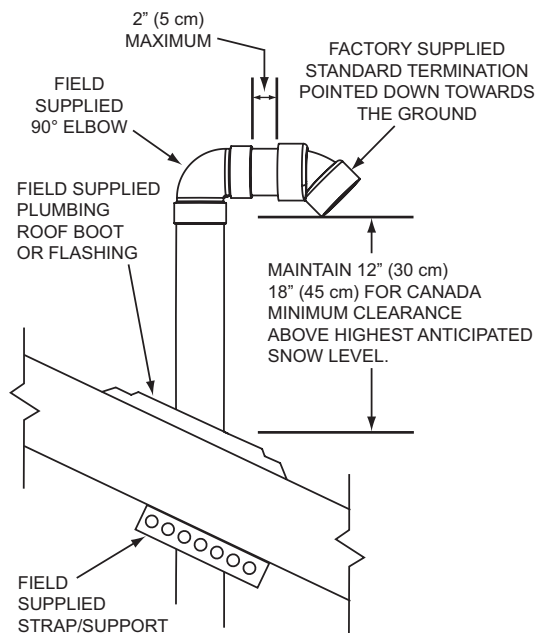
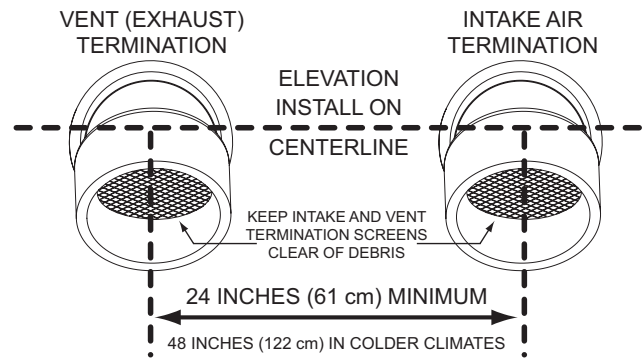

Figure 35. Vertical Termination(s) Installation
**Figure 37. Vertical Termination - Direct Vent**
2. If installing only the vent (exhaust) piping in a power-vent configuration vertically through the roof, ensure that all exterior vertical clearance requirements shown in Figure 35 and Figure 36, (page 38) are being maintained. These clearances and those cited by local and national codes must be maintained.
3. If installing both intake-air and vent piping in a direct-vent configuration vertically through the roof, ensure that all exterior vertical clearance requirements shown in Figure 35, Figure 36 (page 38) and Figure 37 are being maintained. These clearances and those cited by local and national codes must be maintained.
- a. The vent termination must be oriented facing downward as shown in Figure 35 and Figure 36.
- b. The bottom edge of the vent termination must be a minimum of 18 in (45 cm) in Canada, above the average or expected snow level as shown in Figure 35.
- a. The intake-air and vent pipes must penetrate the same side of the roof as shown in Figure 37 (page 38).
- b. The intake air and vent terminations must be oriented facing downward and in the same direction as shown in Figure 37 (page 38).
- c. The intake-air and vent terminations must have a minimum separation of 61 cm (24 inches) measured on the center line, as shown in Figure 37. In colder climates, this separation should increase to at least 48 in (122 cm).
- d. The bottom edge of the intake-air and vent terminations must be a minimum of 18 in (45 cm) in Canada, above the average or expected snow level as shown in Figure 35 below.
The distance between the closest vent and intake-air terminations must be a minimum of 61 cm (24 inches) as shown in Figure 37 (page 38). In colder climates, this separation should be increased to at least 122 cm (48 inches).
8. Suspend the pipe(s) through center of hole using field-supplied metal strapping or equivalent support materials as shown in **Figure 35**.
9. Slide a roof boot or equivalent flashing over the pipe, secure the roof boot or equivalent flashing to the roof (see **Figure 35**) and seal around the flashing.
10. Install the factory-supplied intake-air and/or vent termination(s) using field-supplied pipe and one field-supplied 90° elbow as shown in **Figure 35**. The short section of pipe that connects between the field-supplied 90° elbow and the factory-supplied termination must not be excessive in length. The exposed portion of this pipe shall be no more than 2 in (5 cm). See **Figure 35**.